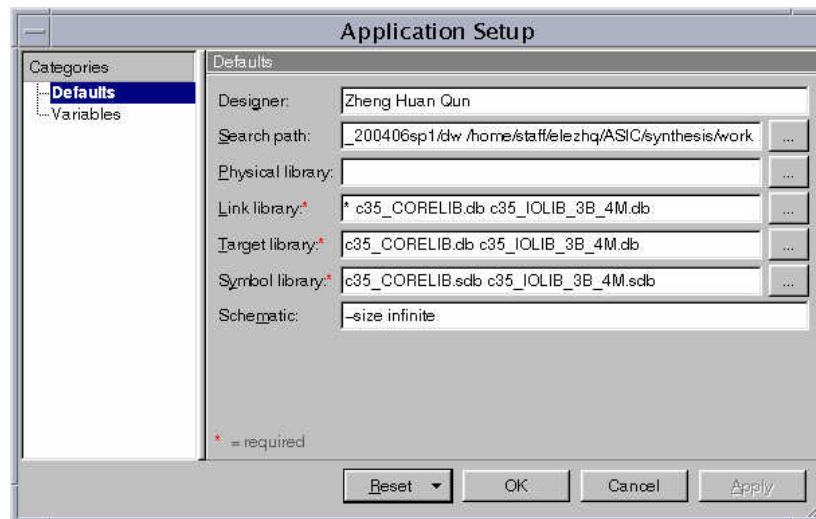

Figure 4-10 Design settings.
2. On **Design Vision** window, click on **File→Setup...** to check the settings. For this example, figure 4-10 shows the current settings.